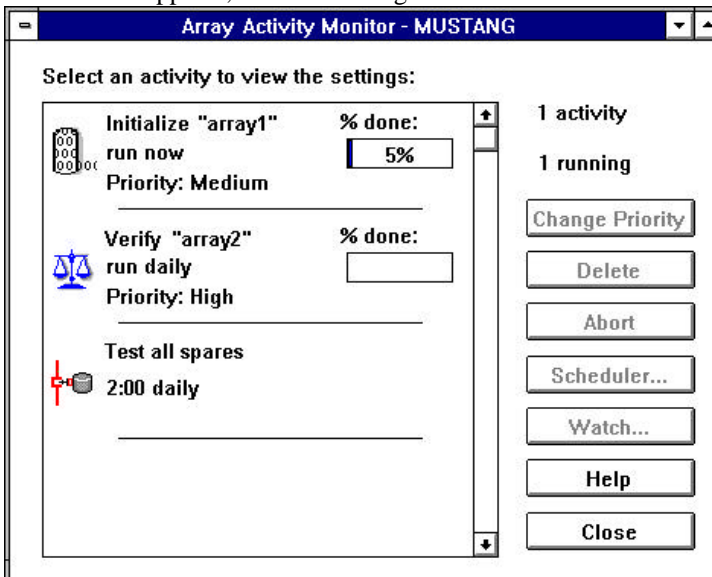

Figure 6-2: Array Activity Monitor Window
4. When the Spare Operations dialog box appears, click the  button. The Scheduler dialog box appears, as shown in Figure 6-2.
1. Select **Activities** from the View menu. The Array Activity Monitor window appears, as shown in Figure 6-2